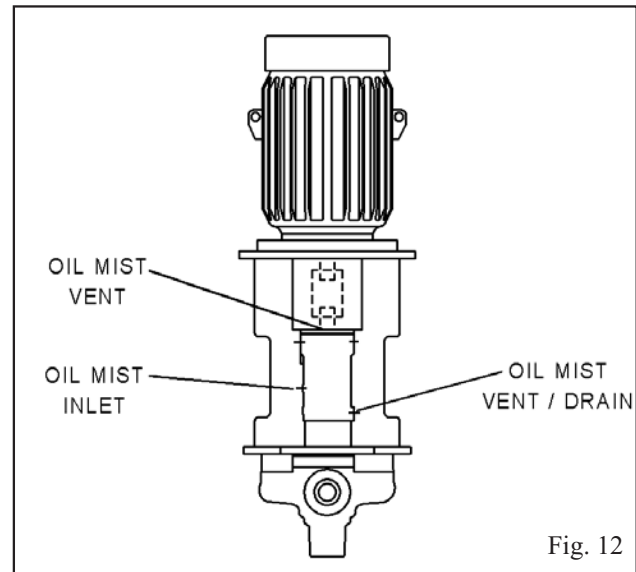

Fig. 12
3. Connect drain line to bottom tapped connection (Fig. 12).